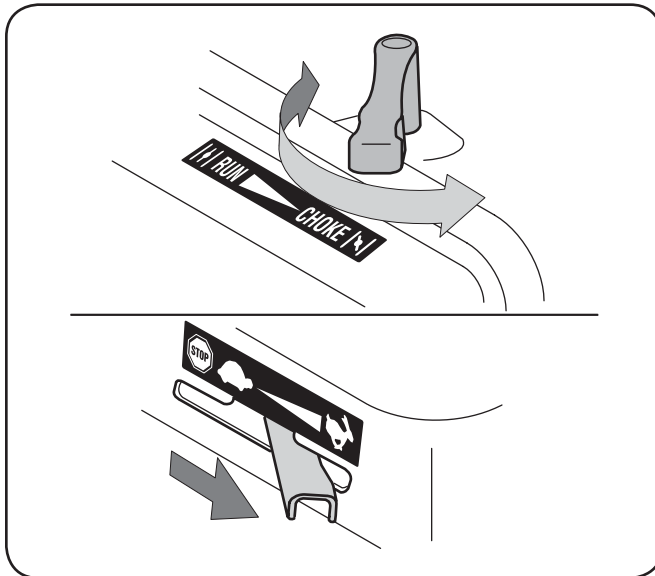

Figure 5-1
3. Move choke control lever to CHOKE position, if equipped. See Fig. 5-1. If the unit has a primer, prime the motor as instructed in the engine operator's manual.
4. Move throttle control lever to FAST position (if equipped). See Fig. 5-1.